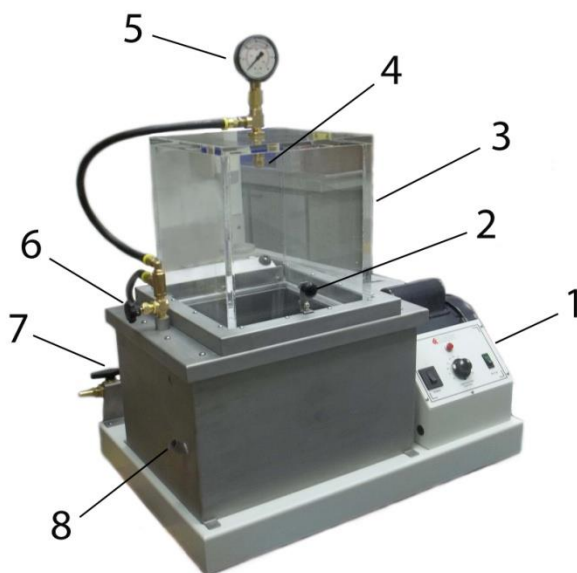
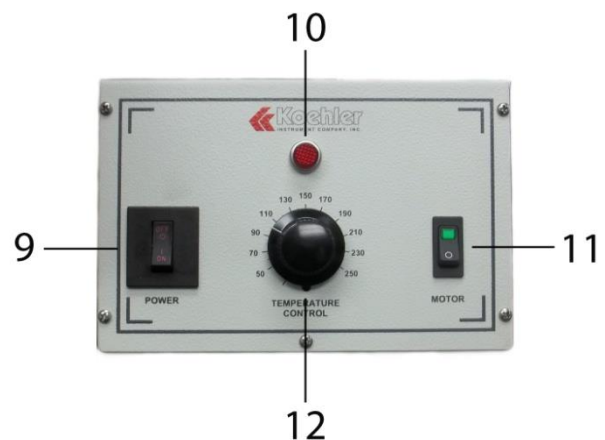

Figure 1. Instrument Description_Front
Figure 2. Instrument Description_Control Panel
Thermometer: Install the test thermometer in the thermometer well located at the side of the instrument (**Figure 1, Item 8**).
6. **Pressure Regulation Valve.** To control pressure of water to spray nozzle. Pressure is displayed on pressure gauge (Figure 1, Item 5).
1. With the unit filled and the line cord connected turn on the line switch (**Figure 2, Item 9**) and adjust the temperature controller (**Figure 2, Item 12**) to bring the reservoir up to temperature as per the test method.
2. Turn on the pump / motor switch (Figure 2, Item 11) and circulate water to attain equilibrium. Observe the pressure on the gauge and adjust the by-pass / pressure regulation valve (**Figure 1, Item 6**) to obtain the proper pressure of 40 psi as per the test method.
3. Clean and prepare the test panel as per the test method. Shut off the pump / motor switch and install the test panel in the holding fixture & install in the reservoir by lifting the spray chamber cover assembly (Figure 1, Item 3) back against the stops.